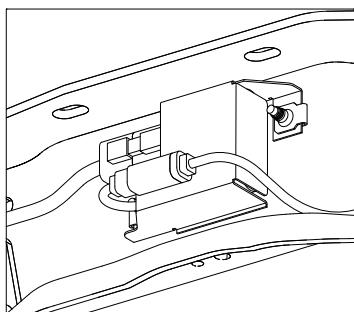
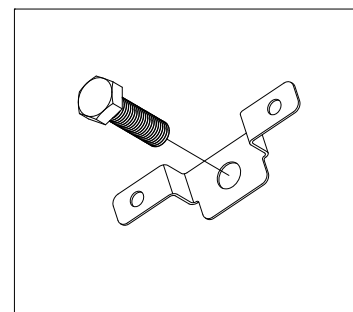
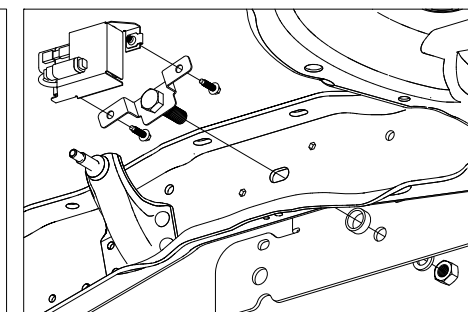
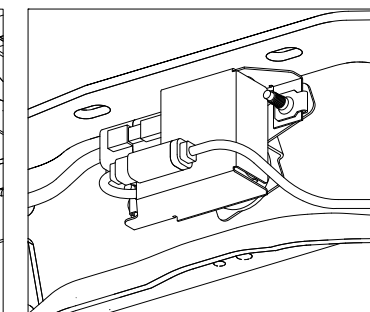

figure 7.4, inside of the passenger side frame.
figure 7.5, supplied bracket and 3/4" bolt.
figure 7.6, inside of the passenger side frame.
Figure 7.7, installed bracket and module
****NOTICE**** - On certain models of the Diesel Ford Super Duty a sensor control module is located over a hole needed to install the passenger side plate of the B&W hitch. A bracket has been supplied to relocate the module so the side plate can be installed. To begin, locate the module on the inside of the passenger frame rail (see figure 7.4). Once located, remove the two bolts holding the module to the frame. Caution, do not remove heat shielding from wiring harness. Wiring must remain as close to its original location as possible to protect it from the heat of the exhaust system. With the 3/4" bolt through the bracket, (see figure 7.5) attach the module to the bracket with the two factory bolts (see figure 7.6). Insert 3/4" bolt through oval slot in the frame and continue with sideplate installation. See figure 7.7 for relocated module in its final position.